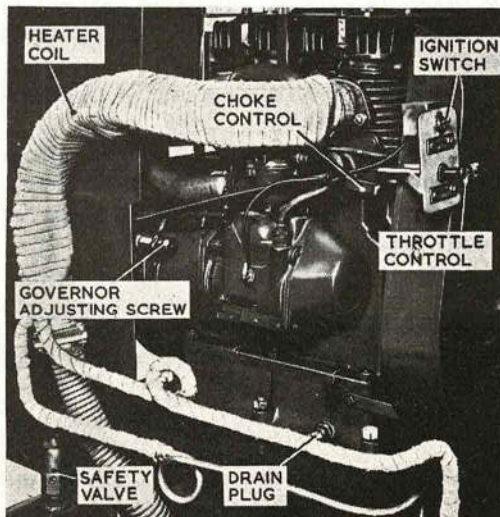

Fig. 15. ENGINE CONTROLS
- (c) Pull out the throttle control (Fig. 15) to the slow running position, and, if the engine is cold, push the choke control inwards.